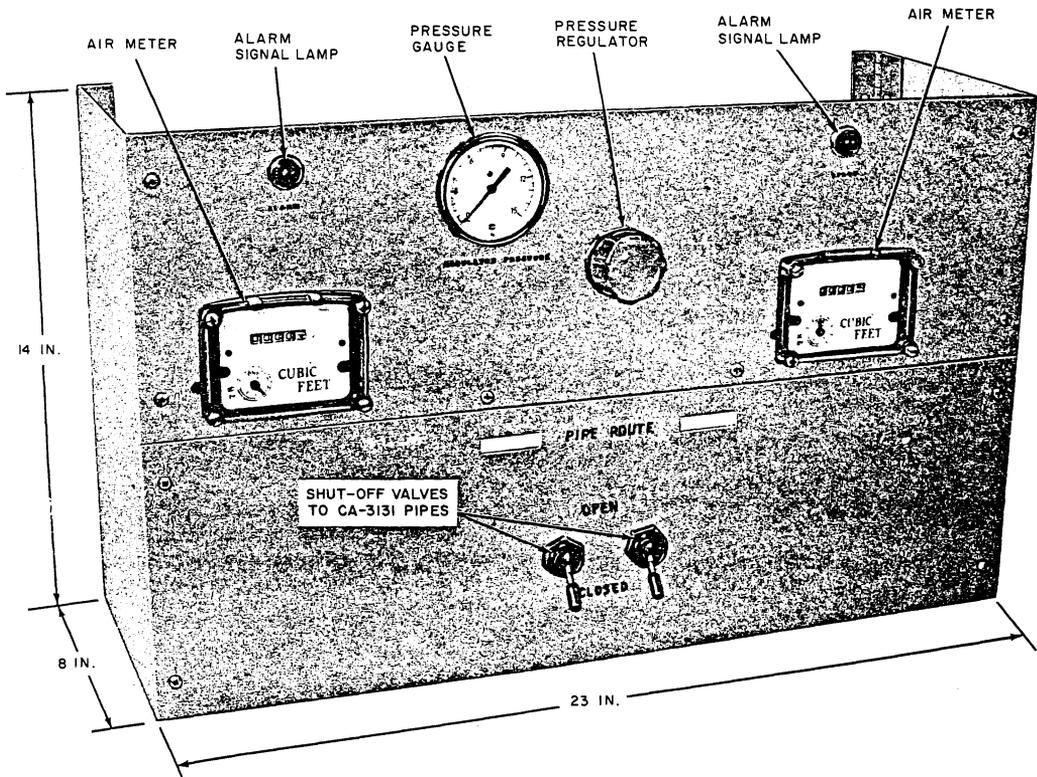

Fig. 1—C Meter-Panel—Front View
3.01 The C meter-panel, illustrated in Fig. 1, is designed for use with *manual monitoring systems* (without CPMS) to monitor the airflow to two CA-3131 pipes. The two pipes may feed two pipe systems or connect to C manifold(s) feeding individual cables at the cable entrance facility.
- **Shutoff Valves:** A shutoff valve to each pipe (Fig. 1 or 2) in conjunction with the pressure regulator permits rearrangements, replacement of components, etc, without affecting other cable or pipe routes.
- (1) Close the pressure regulator for each meter-panel by turning the handle fully counterclockwise (Fig. 1 or 2).
- (2) Close the two outlet shutoff valves for each meter-panel (Fig. 1 or 2).